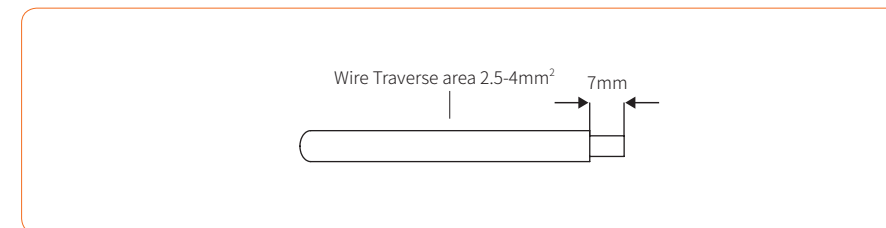

Figure 4-14
② Peel off the DC cable insulation sleeve for 7 mm, as shown in Figure 4-14: